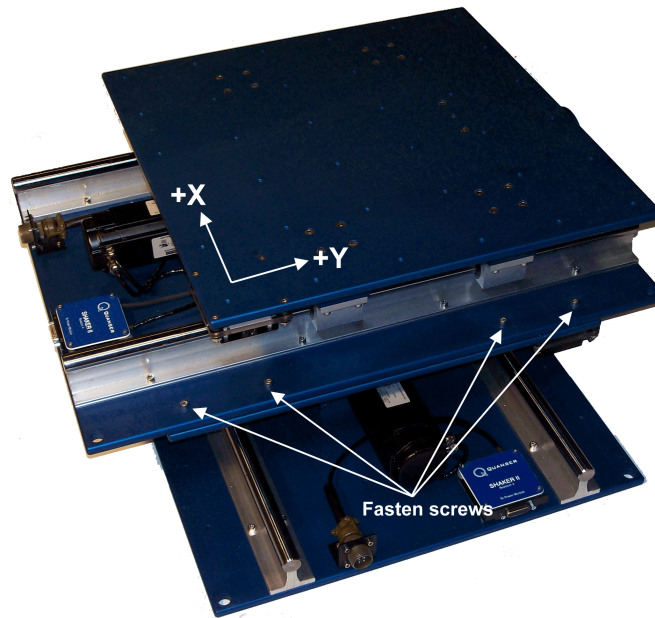
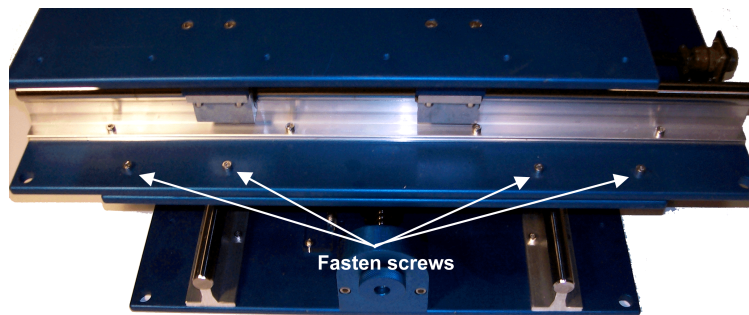

Figure 6.2: Axes on the Shake Table II systems in X-Y configuration
Figure 6.3: Side view of screw holes on the Shake Table II systems in X-Y configuration
The bottom table drives the x-axis motions and the y-axis displacements are generated by shake table mounted on top. The axes are illustrated in Figure 6.2.
1. There are a total of 8 screw holes that will be used to fasten the two shake tables together. Figure 6.2 shows the 4x screw holes on one side.
3. As pictured in Figure 6.2, position the y-axis shake table onto the stage of the bottom Shake Table II (i.e., the one with the rubber stops).
4. Insert the 8 screws into the 8 screw holes depicted in Figure 6.2 and Figure 6.3. The rubber stops may have shifted around when the top table was mounted. It is recommended to have two people for this task. One person lifts the top system while the other can align the screw with the screw hole and the rubber stop. Don't tighten the screws fully until they are all positioned properly.